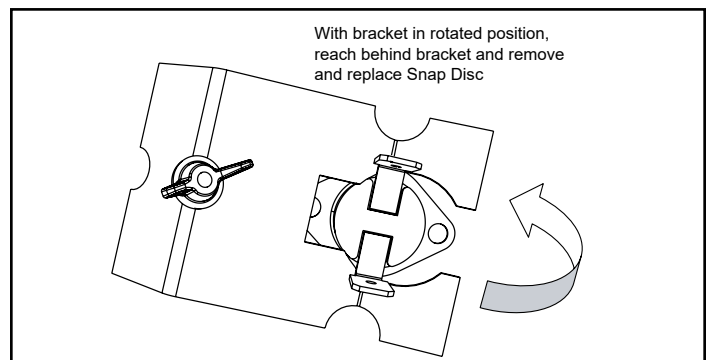

Figure 26.5
10. When bracket is loose enough, rotate the bracket counterclockwise and away from feed tube (**Figure 26.5**).